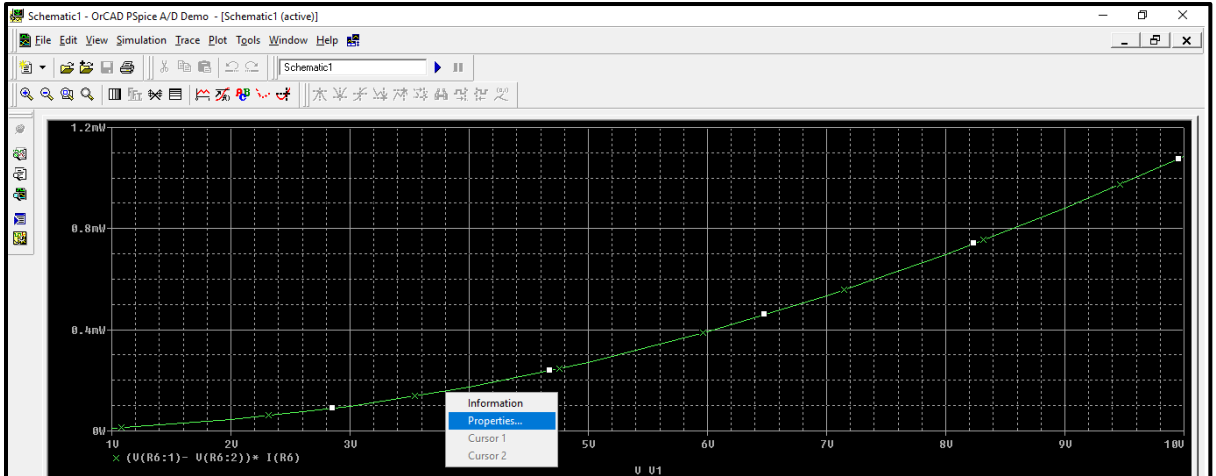

Figure.33
- To change trace properties such as width and color, right click on the trace and select properties as shown in figure.33.